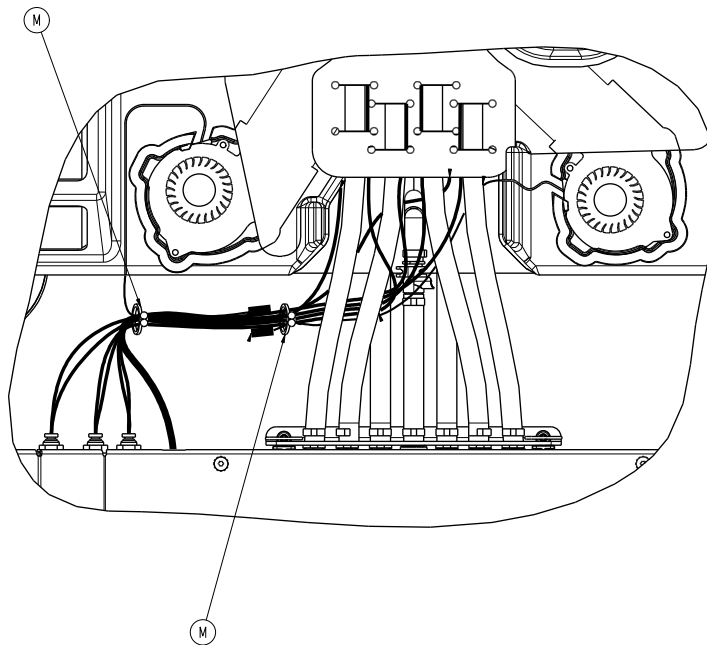

Figure 20 – Purse lock wire tie
12. Remove the two purse lock wire tie (M)(Figure 20). Save the purse lock wire ties.